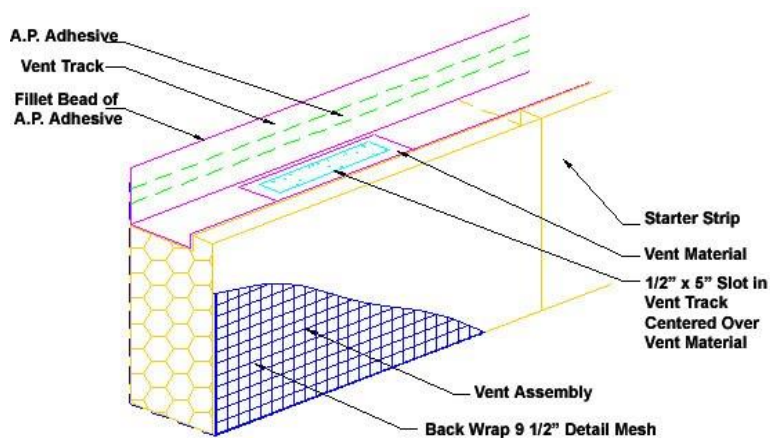

Fig. 19
- vii. Install the Dryvit Vent Track and Dryvit Track by applying a continuous horizontal bead of Dryvit's TREMGrip on the wall side of the vertical nailing flange of the track and position over the Dryvit Starter Strip. When installing the Dryvit Vent Track the cut out (slot) must be located directly above the Dryvit Vent Assembly – Figure 19. Press firmly against the substrate to ensure firm and continuous contact between the adhesive and the wall surface. NOTE: It is recommended that the surface of the Drainage Track and Vent Track be lightly sanded to improve adhesion of Backstop NTX or AquaFlash.